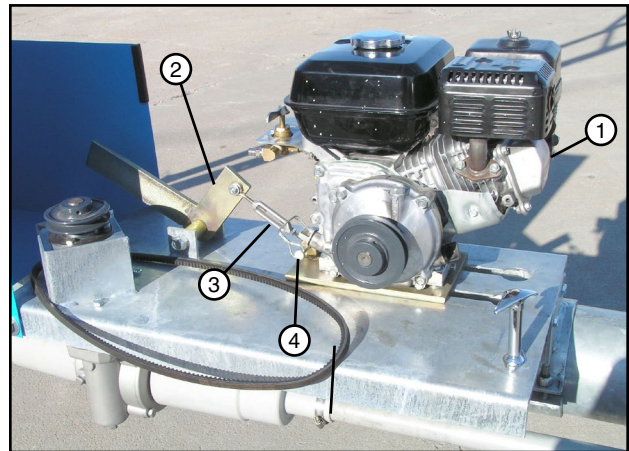

Figure 23-2 1. Engine 3. Turnbuckle
2. Slide engine toward direct drive handle and secure direct drive engine mount to turnbuckle with lynch pin. See figure 23-2.
3. Install v-belt over center drive gearbox and engine pulleys in the configuration for desired direction of operation, either forward or reverse. See figure 23-2.